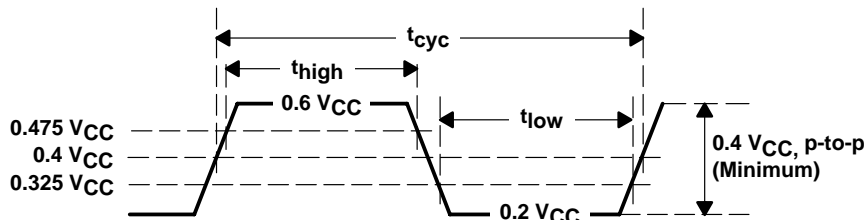

Figure 9–2. CardBus PC Card Clock Waveform
8. Rise and fall times are specified in terms of the edge rate measured in V/ns. This slew rate must be met across the minimum peak-to-peak portion of the clock waveform (see Figure 9–2).